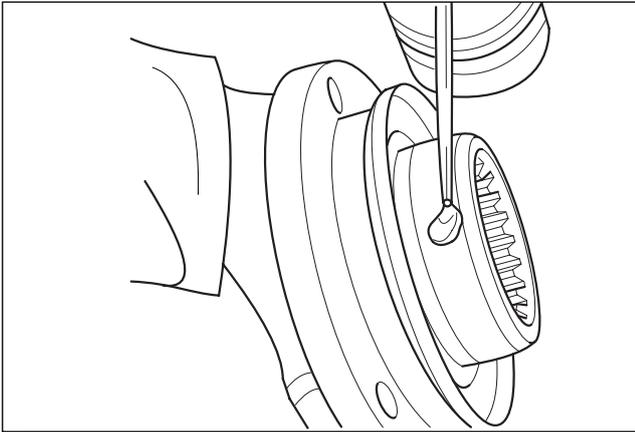

Fig. 4.22
2. If the deflector does **not** need to be replaced, lubricate the seal rotary sleeve journal of the flange (Fig. 4.22)